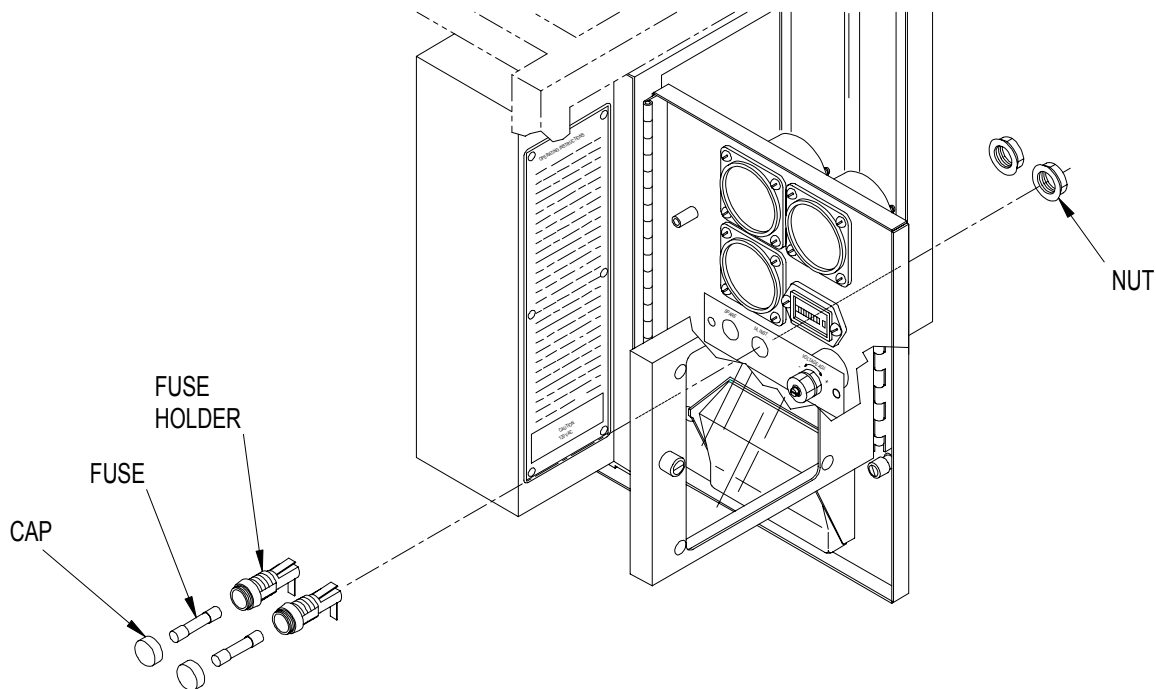

Figure 4-31. Fuseholder(s)
- (1) Shut down generator set.
- (2) Release instrument panel by turning fastener, open instrument panel slowly.
- (3) Tag and disconnect electrical leads from fuseholder (Figure 4-31).
- (4) Release instrument cover by turning fastener, open instrument cover.
- (5) Remove nut.
- (6) Remove fuseholder, complete with fuse.
- (7) If necessary, remove cap and fuse.
- (1) If removed, insert fuse (Figure 4-31) into fuseholder and install cap.
- (2) Position fuseholder in instrument panel.
- (3) Install nut.
- (4) Connect electrical leads and remove tags.
- (5) Close and secure instrument panel and instrument cover.